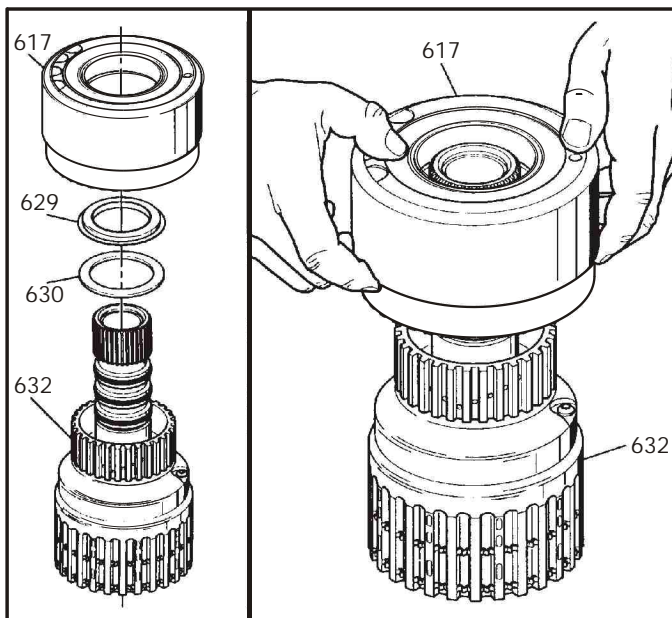

Figure 71
23. Remove the input clutch housing thrust bearing (629) and the selective thrust washer (630) from the input clutch housing (See Figure 71).